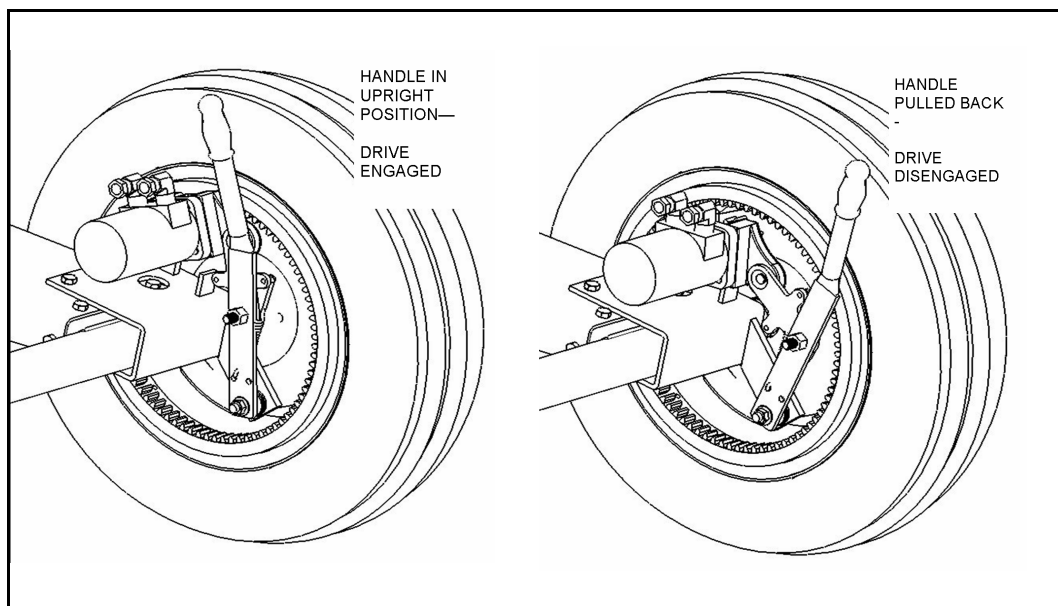

Figure 4.1 Over-Center Operating Position
4. Before transporting, disengage the over-center handle at each wheel (Figure 4.1) by pulling up on the handle.